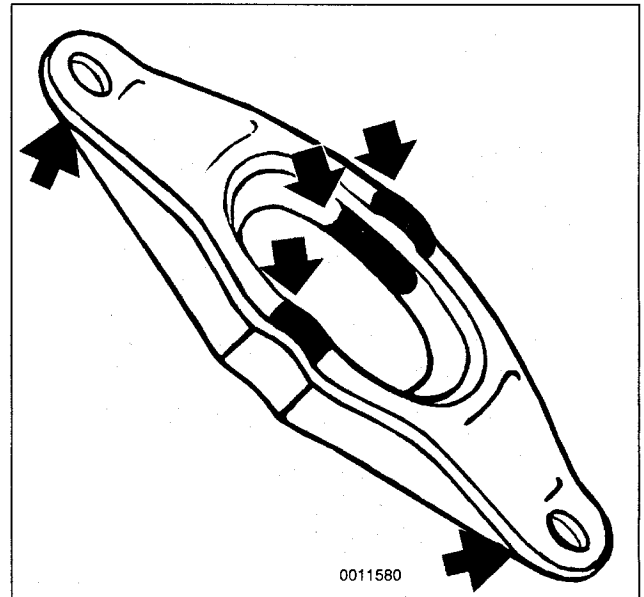

Fig. 9. Clutch release lever lubrication points (arrows).
4. Inspect and clean release bearing lever. Apply a thin coat of grease to release bearing lever contact points. See Fig. 9. Also, lightly lubricate clutch disc splines and transmission input shaft splines.